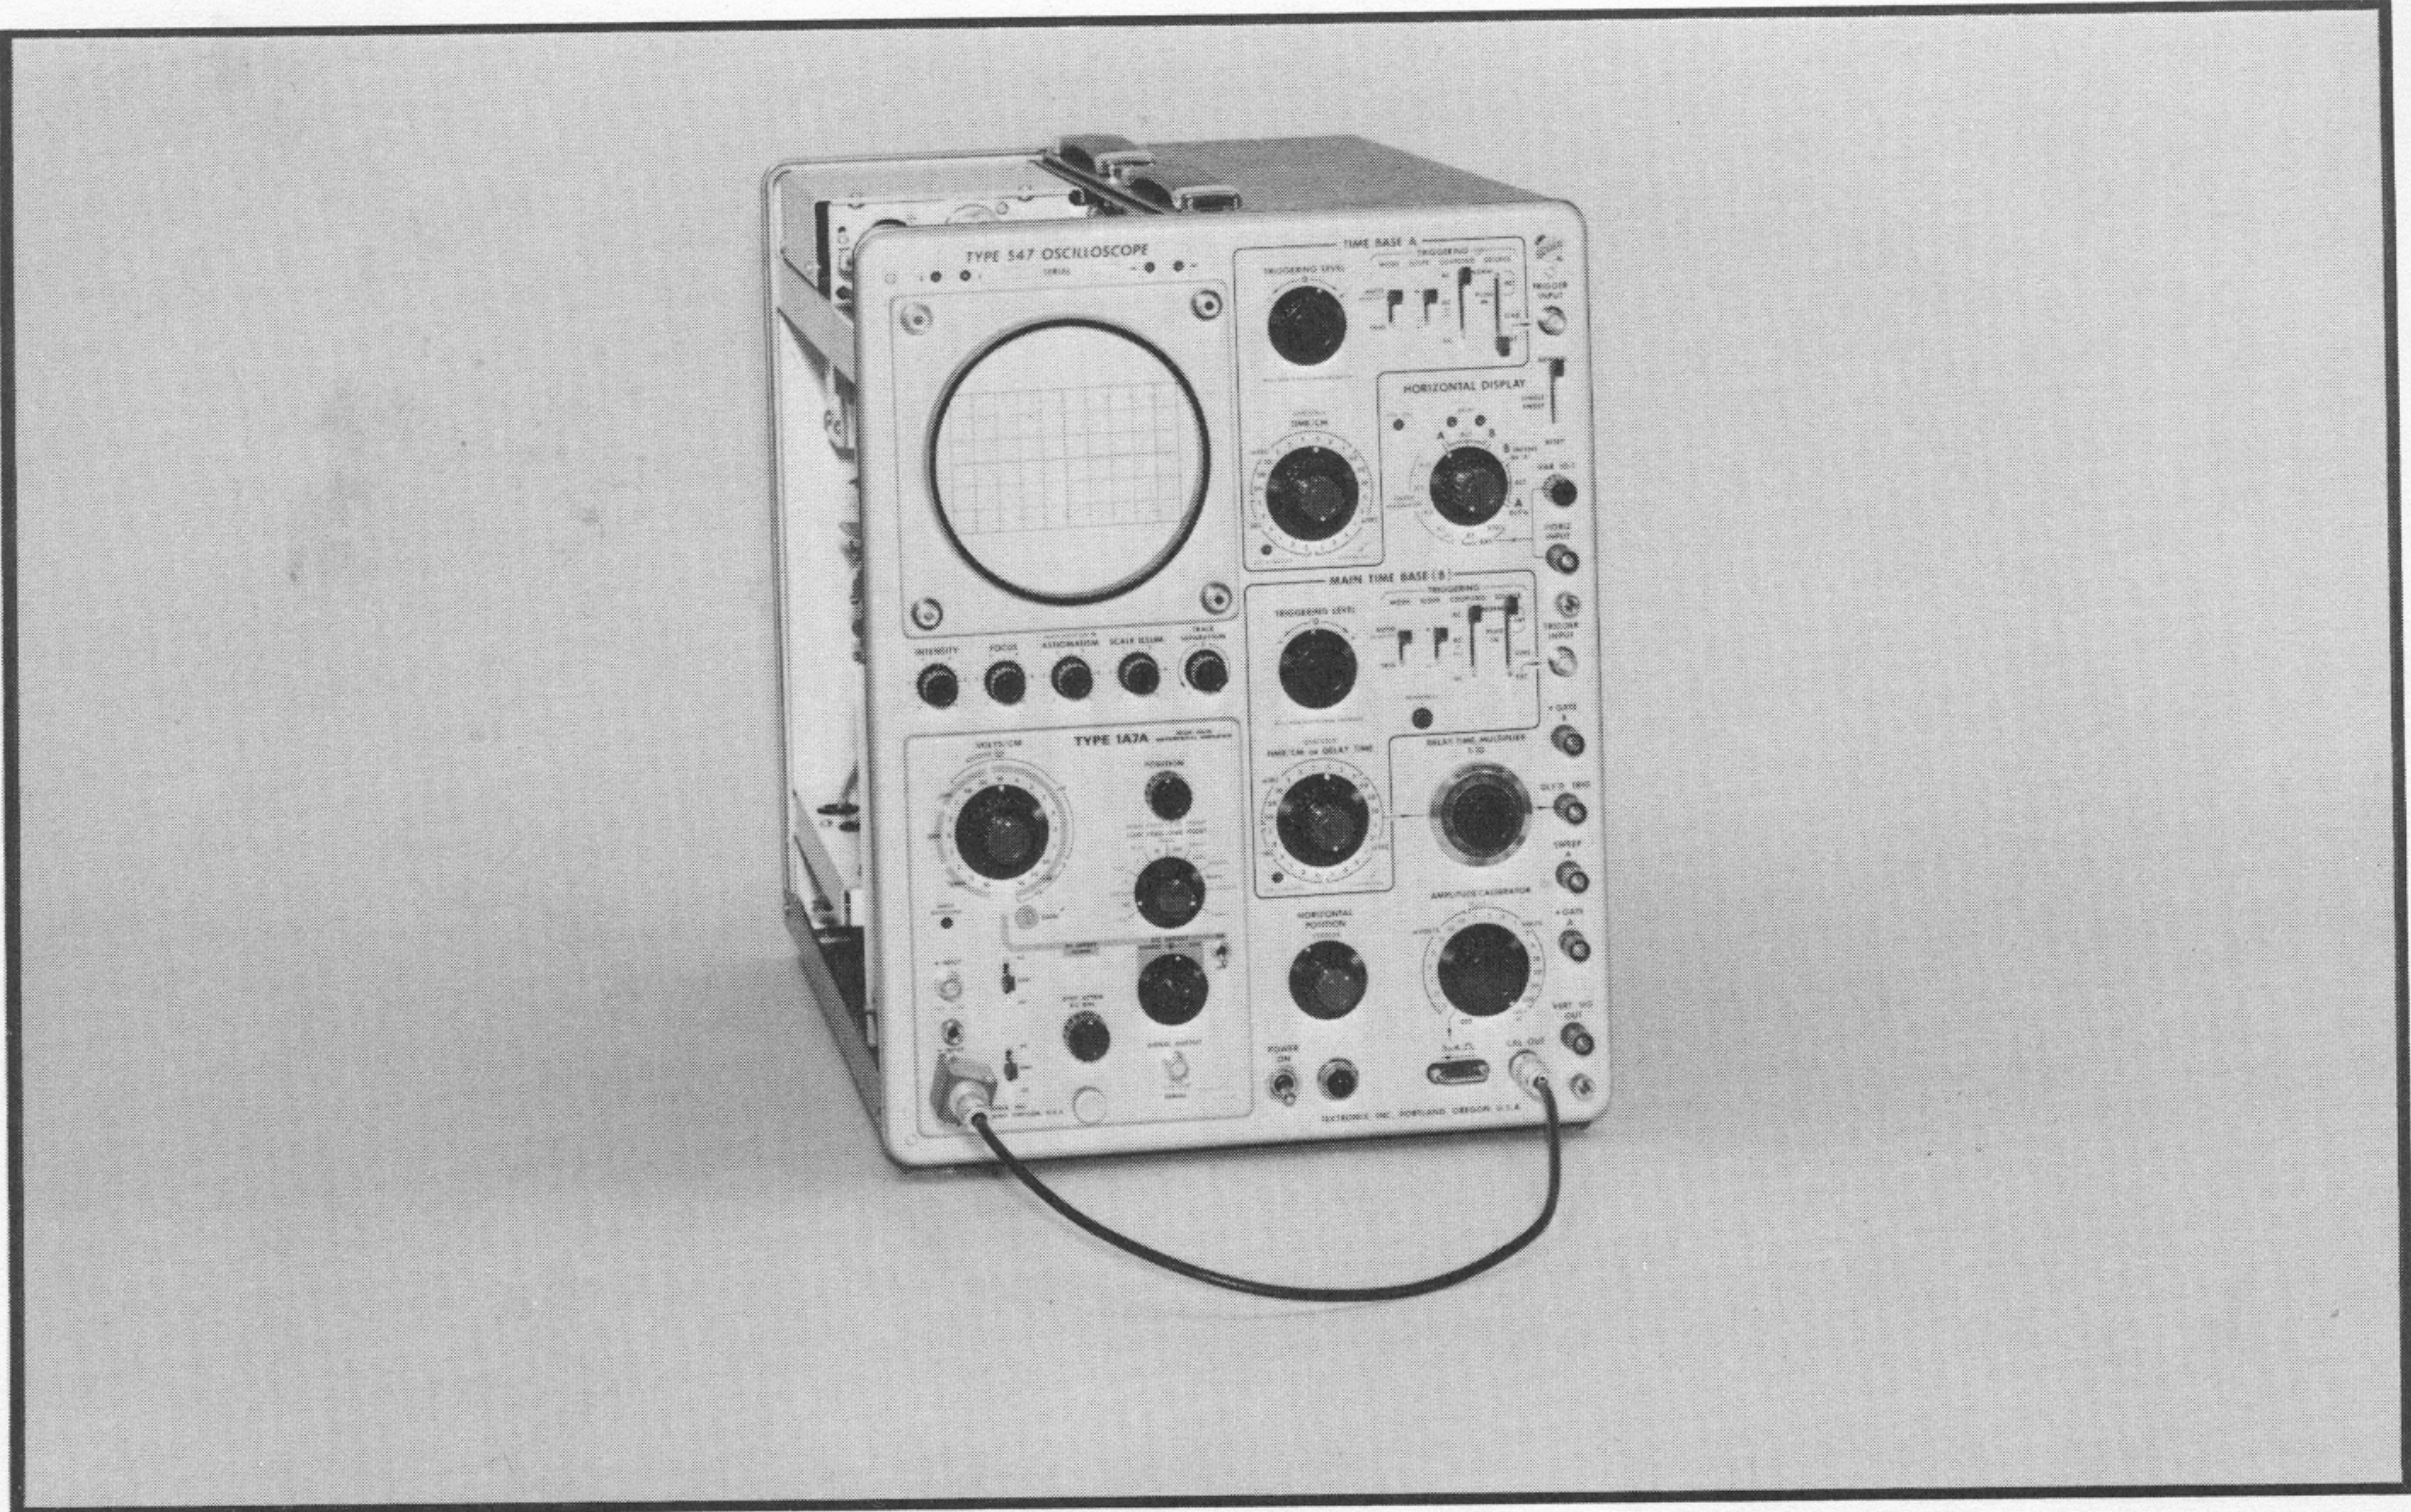

Fig. 5-22. Test equipment setup for step 18.
- a. Test equipment setup is shown in Fig. 5-22.